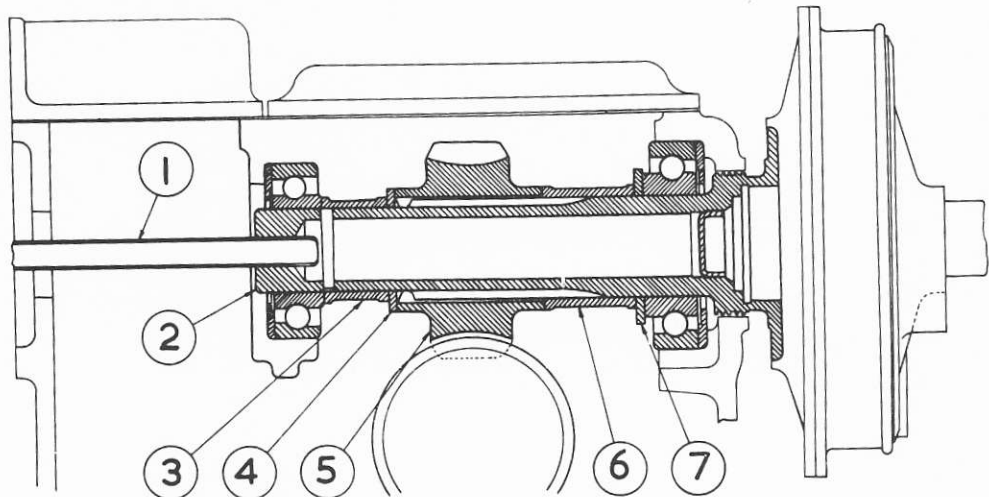

FIG.1. SECTION - SERVO MOTOR &amp; SPEEDOMETER DRIVE.
- (iii) If the change gear support bracket has not already been removed prior to the removal of the gearbox from the chassis, then unscrew the set-bolts and nuts securing it to the gearbox and remove the bracket complete with the governor casing (if the latter is fitted). Before removal, push the change gear lever towards the gearbox and manoeuvre the unit out of position and withdraw the square speedometer drive shaft (1 Fig.1)
- (xi ) Withdraw the servo drive shaft (2 Fig.1) simultaneously collecting the distance pieces (3 & 6), the adjusting washers (4 & 7), and the worm gear (5). It should not be necessary to remove the ball bearings of the drive shaft.